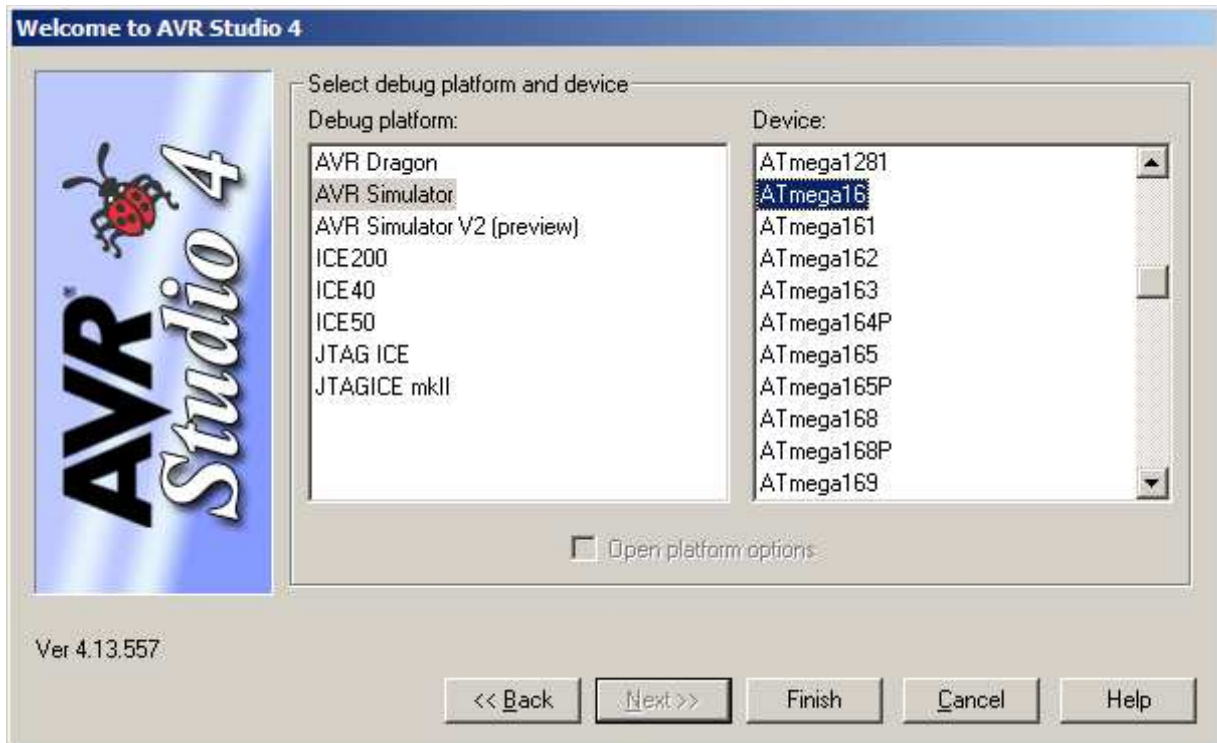

Figure 2: Selecting debug platform and device.
- In the ‘Select debug platform and device’ dialog that appears (see Figure 2), choose ‘AVR Simulator’ as the debug platform and ‘ATMEGA16’ as the device. Click button **Finish**.